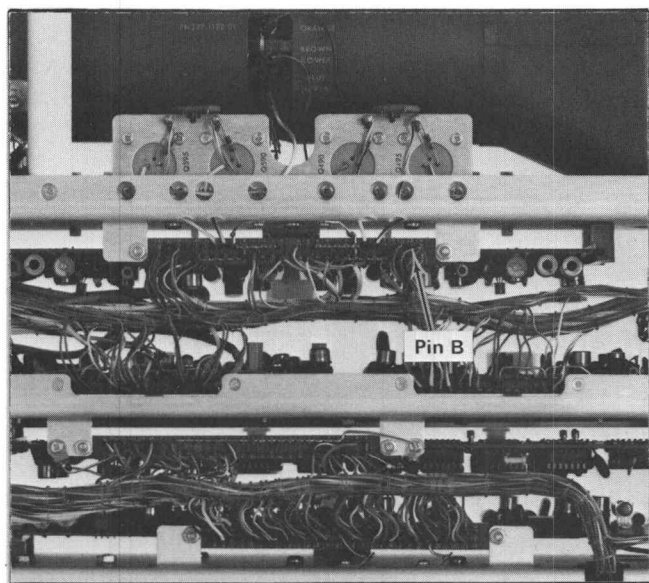

Fig. 5-19. Location of Pin B on X-Y board.
b. Connect a 10X probe from the test oscilloscope to pin B of the X-Y amplifier board (Horizontal Position control center arm) see Fig. 5-19. DC couple the test oscilloscope. Using the front panel Horizontal Position control, set the voltage to 0 V as monitored on the test oscilloscope. Maintain this level through steps 28 and 29.